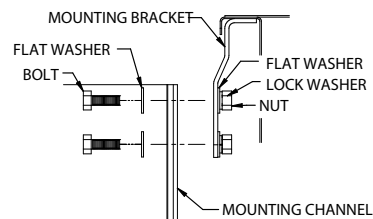

Figure 20 - Mounting Channel Installation
2. Use 3/8" (10mm) flat washers, lock washers and nuts to secure the mounting channel to the bracket, as shown in Figure 20.